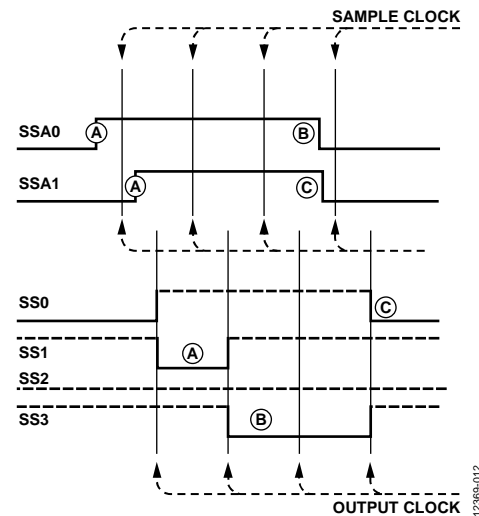

Figure 12. Mux Select Timing
Figure 12 illustrates the behavior of the SSA0 and SSA1 channels. This diagram assumes that $\overline{\text{MSS}}$ is low and that SS0, SS1, SS2, and SS3 are pulled up.
The following details the mux select timing shown in Figure 12:
- Point C: This point in Figure 12 shows a clean transfer between SS3 being active and SS0 being active. The mux was designed to eliminate any short duration metastable states between any two selected outputs.